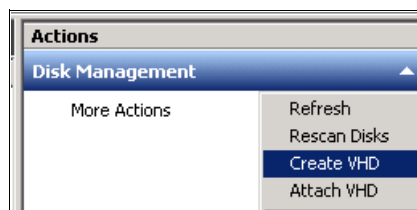

Figure 3-21 Create VHD
1. Inside the disk management, right-click **More Actions** and select **Create VHD**. See Figure 3-21.